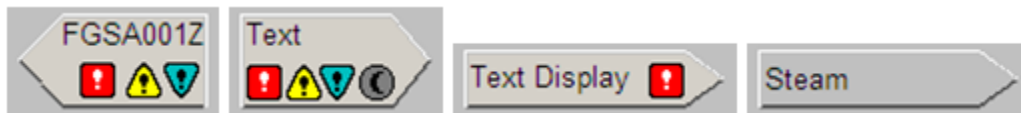

Figure 36: Navigation Shapes
**Notice!** The dynamic alarm behavior in the shapes in, Figure 34, Figure 36 and Figure 37 is based on the use of alarm groups see for more details chapter Chapter 3, “Alarm Management”.